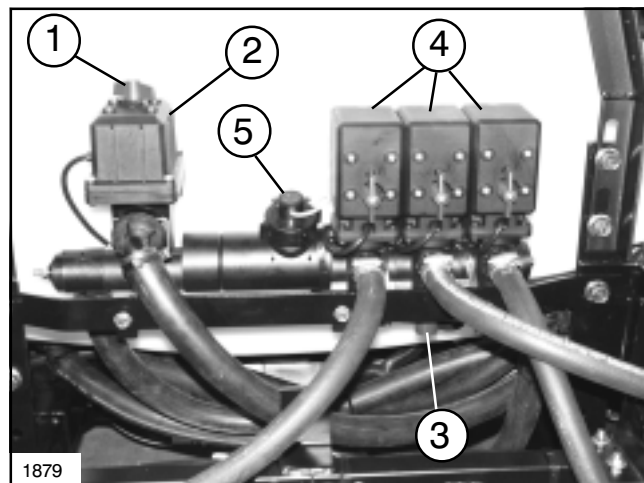

FIG. 3
SPRAY CONTROL MANIFOLD (FIG 3)
6. RATE CONTROL VALVE: Determines application rate by regulating amount of fluid that is bypassed to tank or pump suction. (See FIG. 3)
7. BOOM CONTROL VALVES: Directs flow to individual boom sections. When "OFF", flow is directed back to tank. This can be manually overridden if Electrical Conductor is disconnected. Green protrusion behind valve stem indicates valve section is "ON". See FIG. 3, page 50.
8. BOOM BYPASS VALVES: Manual adjustment to equalize restriction of the particular Boom Section when a section is turned "OFF." See FIG. 3, page 50.
9. FLOWMETER: Measures amount of fluid flowing to Boom Control Valves. See FIG. 3, page 50.